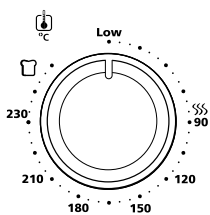

Figure 1
1. **Temperature Selector Knob** – Adjust the thermostat dial to the desired temperature (See Figure 1).
1. Place the chicken, turkey or other food you want to cook on the rotisserie spit. Use the two spit forks to hold the food in place in the center of the spit. Use the two spit screws to tighten the spit forks (see figure 1).